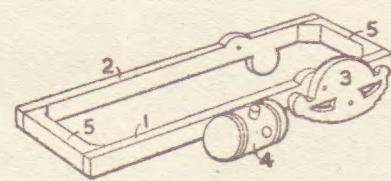

Fig. 1—Front chassis
Mark the patterns off on to the wood accurately, cut them out with the fretsaw and put their number in pencil on the reverse side. Build up as far as possible as you go along, according to numerical order. Start with the chassis of the front portion, a detail of which is shown at Fig. 1. Before you make the framework of parts 1, 2 and 5, you must screw on the rounded petrol tank (No. 4), because otherwise you will not be able to get at the inside. Note the position of the spring pieces (3) as indicated by the dotted lines on the pattern of piece 2. Although not provided for on the design sheet, it is as well to add an axle piece between the two drop sides.